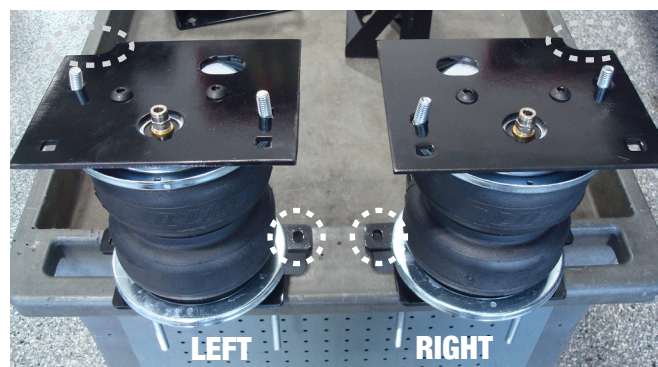

Fig. 16
- The other side is the same but mirrored (Fig. 16)
- Place the lower bracket assembly onto the air spring assembly and secure it with two 3/8"-24 button head screws (J). Torque them to no more than 20 lb.-ft. (27Nm)
- Repeat these steps for the other side. The completed assemblies are shown in Figure 16.
For proper installation of the assemblies make sure the tabs (circled in white) are on the opposite side of the air port or on the same side as the upper bracket notches (circled in gray) (Fig. 16).